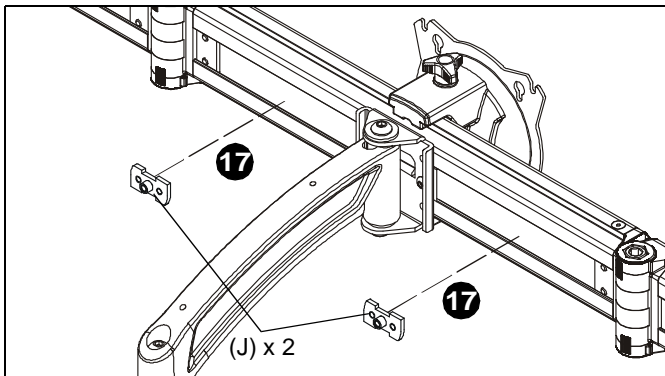

Figure 10
- 17. (K4G310 only) Insert two channel attachments (J) into back of array center (BB). Attachments must be turned horizontally in order to fit into channel. (See Figure 10)